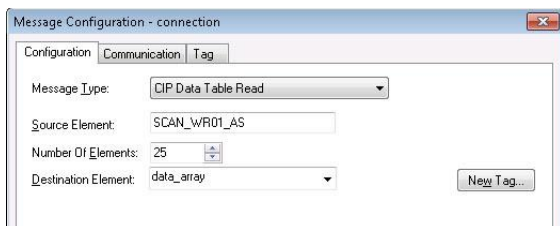

Figure 31: MSG Instruction Configuration
- Click the message configuration button ("...") in the MSG instruction. The "Message Configuration" window will open. Refer to Figure 31.